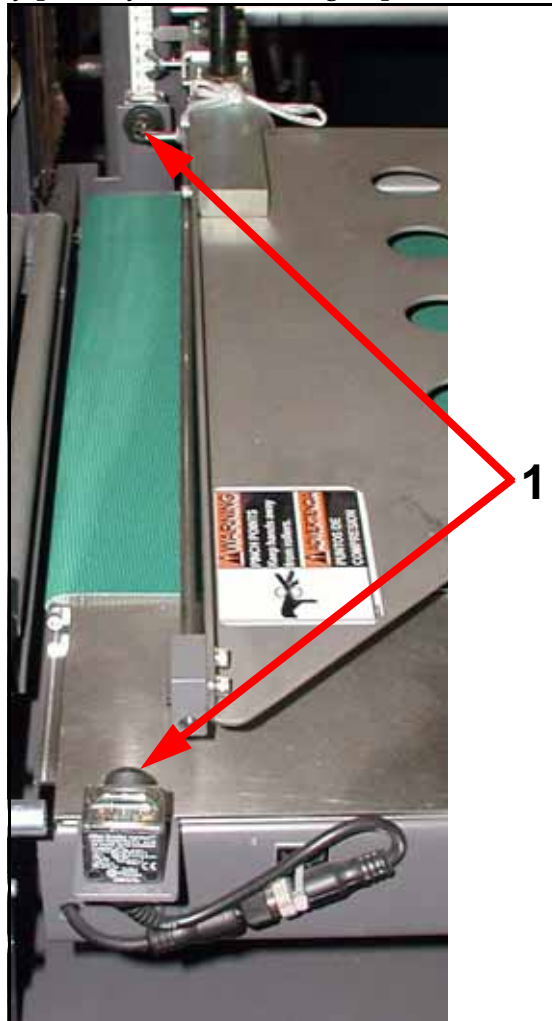

Figure 6-4. Cleaning Photo-Sensor
- 1 Spray a small amount of window cleaning solution to face of photo-sensors (1 in Figure 6-4).